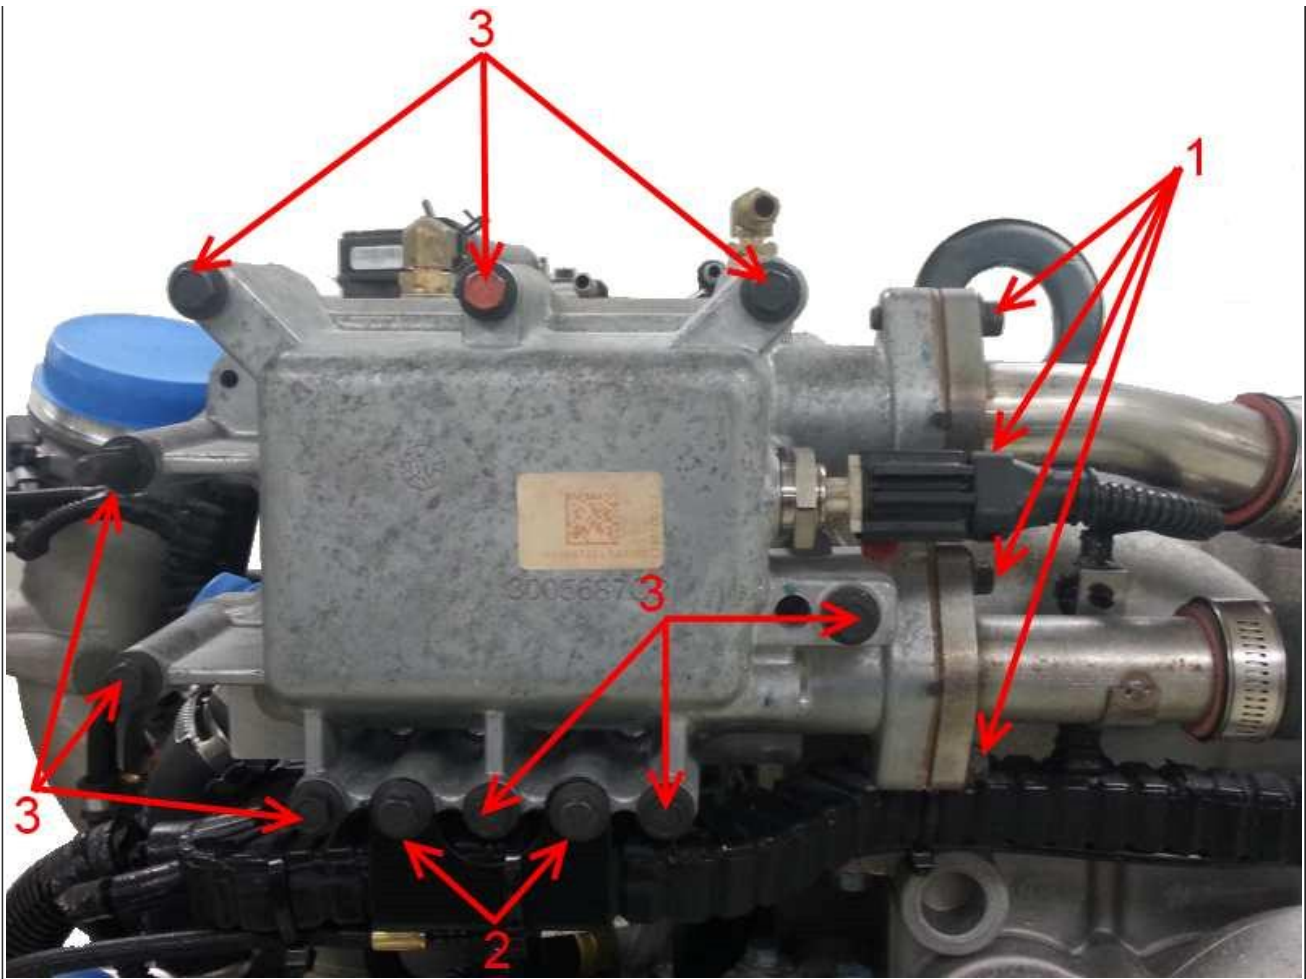

Figure 19: EGR Outlet Cover, Bolts and Tubes
10. Install the front cover, noting the location of the stud bolt in **Figure 19**.
12. Install the four bolts for the EGR outlet tubes, using new gaskets from the kit (**Figure 19**, Item 1).
13. Install the two engine harness bracket bolts (**Figure 19**, Item 2).